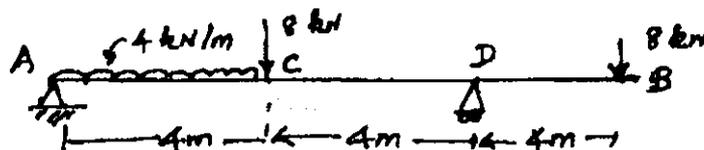

Fig. 3
12. (a) For the beam shown in Fig. 3 draw SFD and BMD. (16)